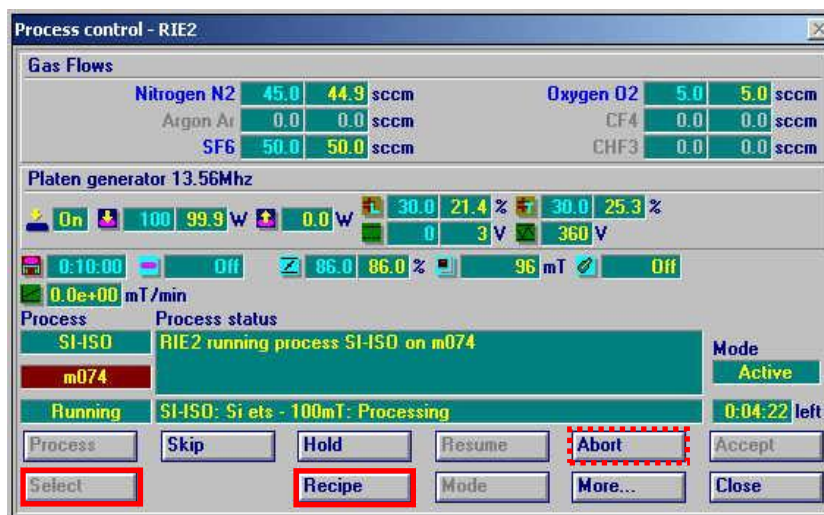

Fig.5: Process Control window (RIE-2).
4.3.1 Press the **Select** button in the **Process Control** window of RIE1 or RIE2 (*Fig.5*). If you accidentally press *Process*, a process will start, immediately press *Abort* in the process control window then and the process will stop.